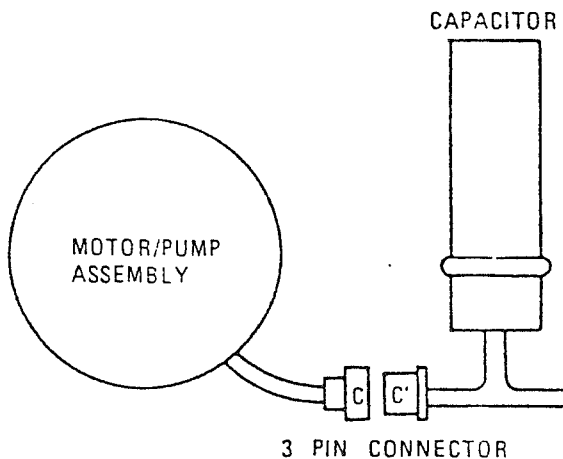

Figure 5-16.
2. Disconnect the 3 pin connector C' and C at the motor. Leave all other connectors connected. See figure 5-16.